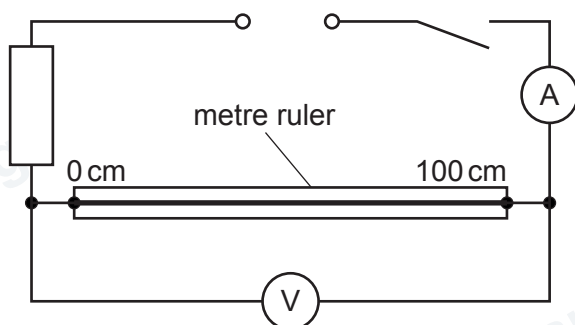

Figure 4.2
4.3 The circuit shown in Figure 4.2 should be set up for the candidates.